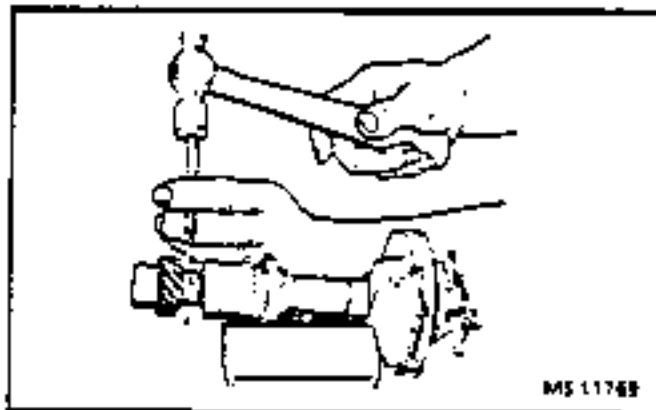

Figure 14 - Removing the Roll Pin
- Any time the distributor is disassembled, the retainer (5) must be replaced. Do not attempt to reuse the old retainer.
1. Screws (1) and washers holding the cap to the housing.
2. Cap (2) from the housing.
3. Rotor (3) from the shaft by lifting or prying straight up.
4. Roll pin (15) from the shaft (4).
- B. Drive out the roll pin with a small punch (Figure 14).
5. Driven gear (14), washer or spring (13), and spring retainer or tang washer (12).
6. Shaft assembly from the housing (11).
7. Retainer (5) from the housing (11) as follows: